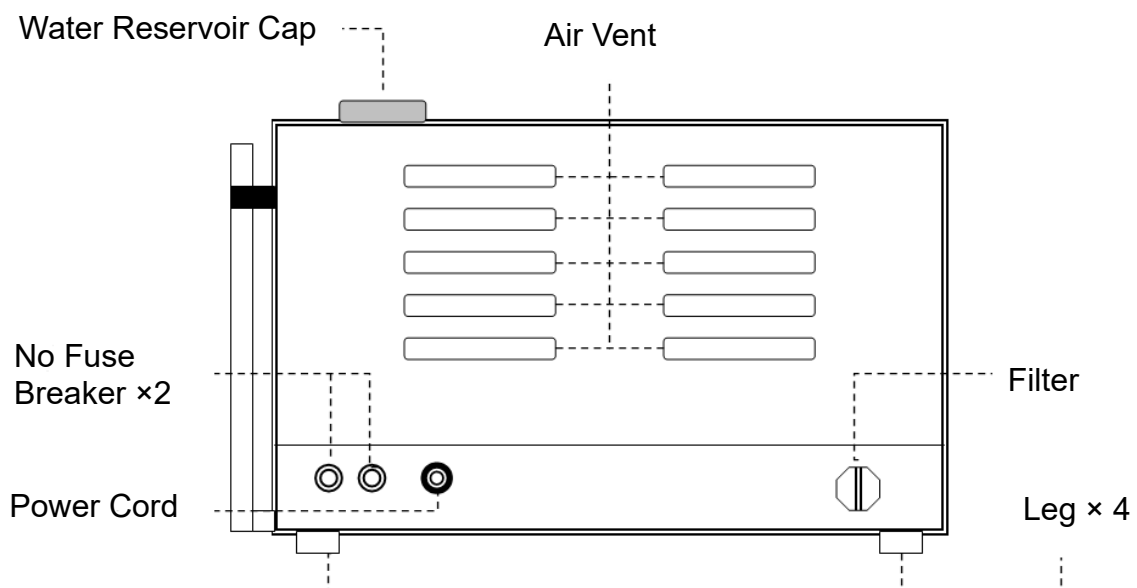

Figure 10 - Rear Plate
- Ensure the vent holes in the water reservoir cap (Figure 10 - Rear Plate) are not blocked.